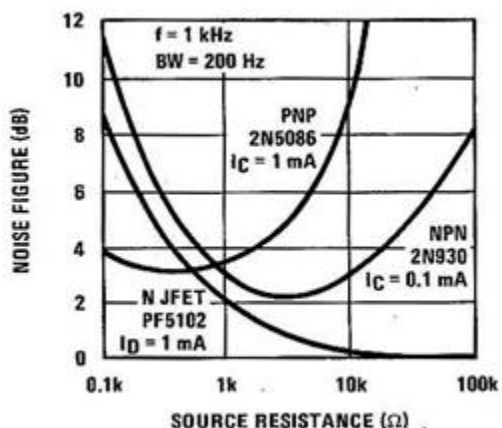

Figure 1. Bipolar and JFET Transistor Noise Comparison
Most designers think of JFETs for very high source impedances. However, modern devices offer the designer performance improvements over bipolar transistors in Noise Figure (NF) for all but lowest impedance (<5000Ω) sources and even then may provide improved performance. If popcorn noise, bandwidth or circuit component noise is a consideration (see Figure 1).